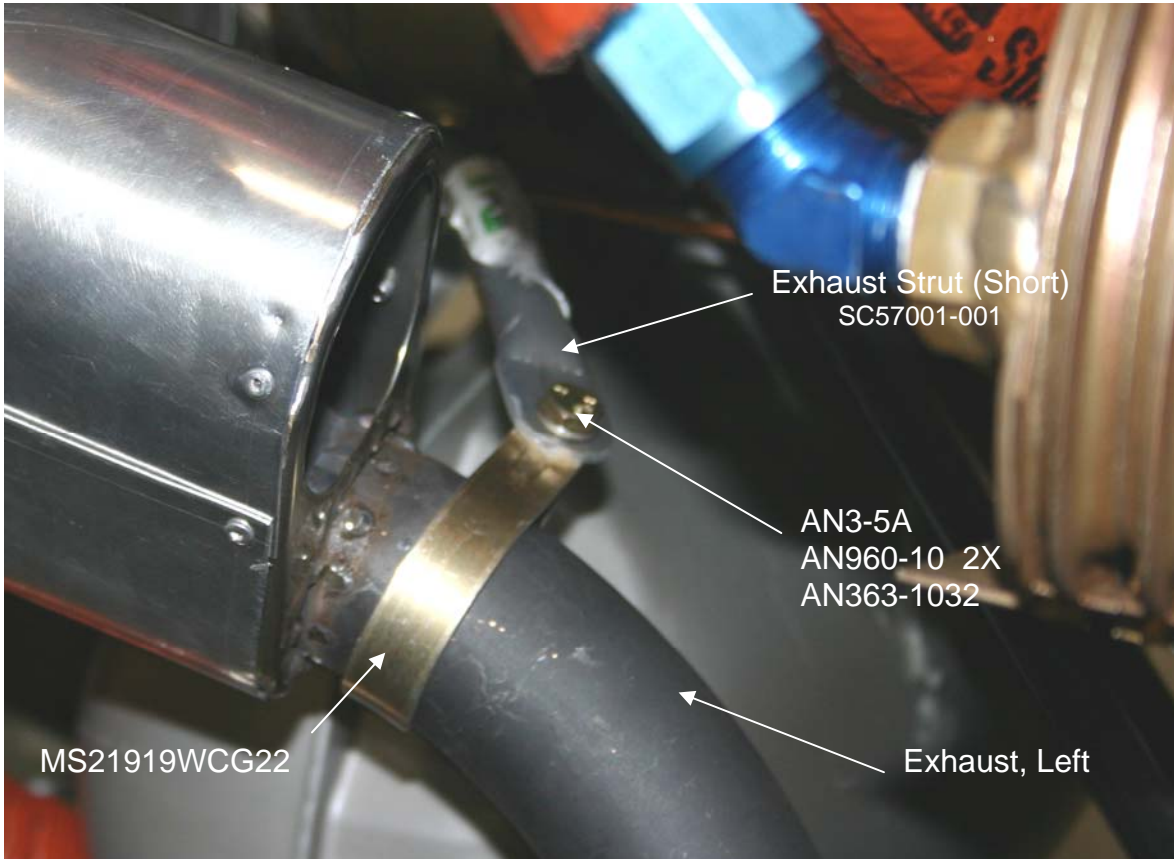

Figure 1 – Left Exhaust Strut
2. Place Adel Clamp (MS21919WCG22) around Left Exhaust (See Figure 1)
3. Secure MS21919WCG22 to unbent end of Exhaust Strut (SC57001-001) using AN3-5A, two (2) AN960-10, and AN363-1032. (See Figure 1)